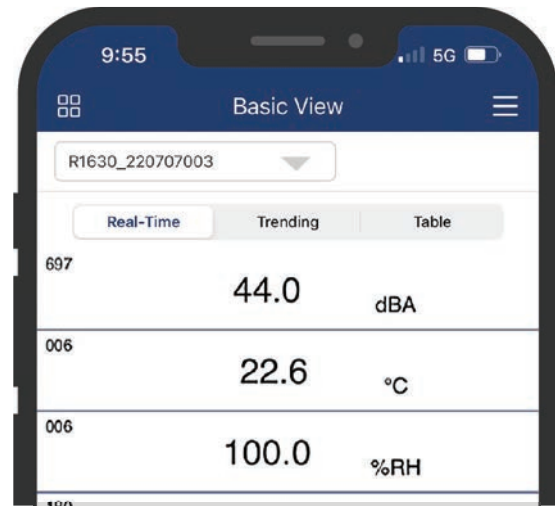

Figure 10
**Real-Time** – This is the default view in the App. As meters are connected, the Real-time data for each will appear in this view. (Figure 10)
Please note that some meters have multi parameters therefore you may need to scroll down on the App to view data for all connected devices. (Figure 10)